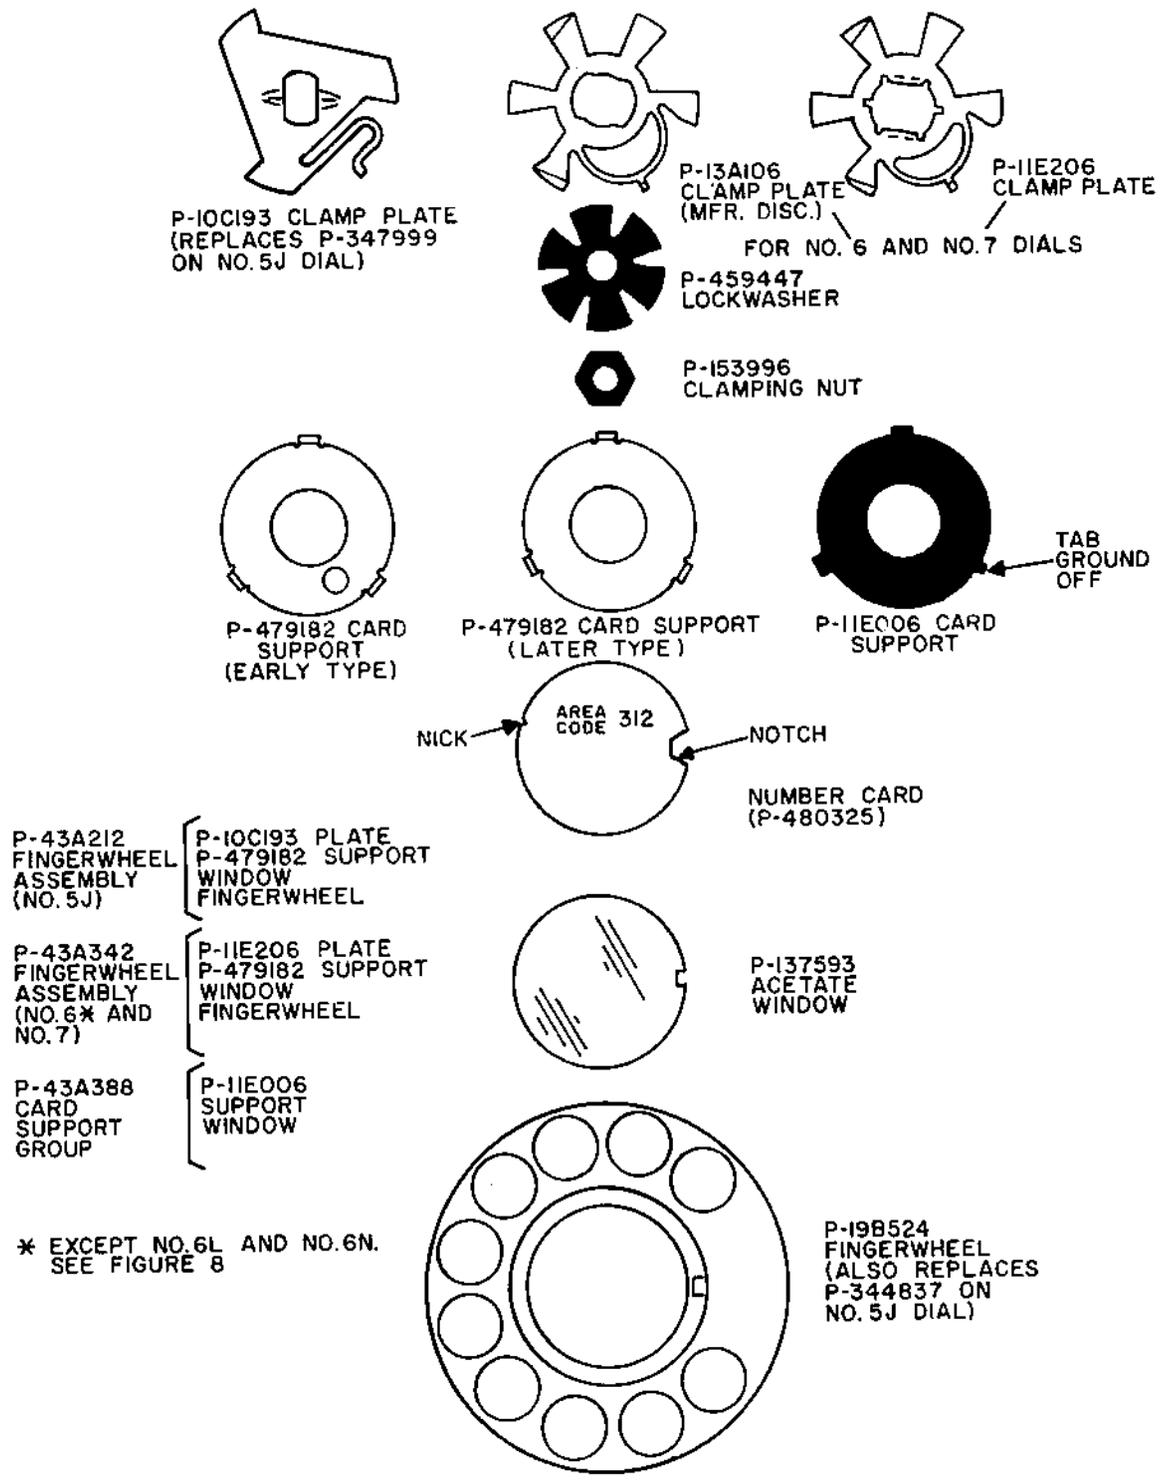

Figure 7. WECO Acrylic or Polycarbonate Fingerwheel Assemblies with Separate Window.
3.07 The WECO P-19B524 fingerwheel, molded from clear acrylic or polycarbonate, has no metal escutcheon. A raised portion surrounding an approximate 1-5/16 inch diameter center hole serves to retain a P-137593 acetate window, which is inserted from the rear. Including the window, six additional parts are required to mount the fingerwheel and provide identification. Two different clamp plates are available: P-10C193 is arranged to mount on the hub of a Number 5 dial, and P-11E206 on the hub of a Number 6 or 7 dial (Figure 7).